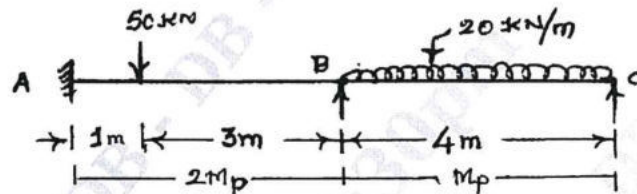

Fig.Q2(b)
- b. Determine the maximum plastic moment for the beam shown in Fig.Q2(b). Take load factor as 1.5.